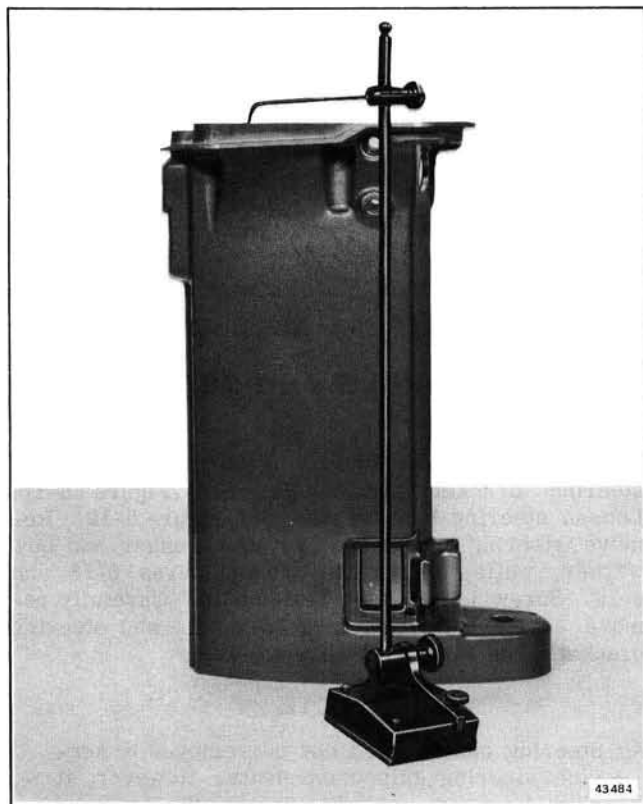

Figure 6-13. Checking Parallelism
8. Inspect exhaust housing for nicks on the machined surfaces. Remove nicks and re-surface faces on a surface plate. Start with No. 120 emery and finish with No. 180. Check parallelism on plate with a surface gage and scribe. See Figure 6-13. A drill press table will also serve, using the spindle as a gage. Do not attempt to straighten, replace if bent.